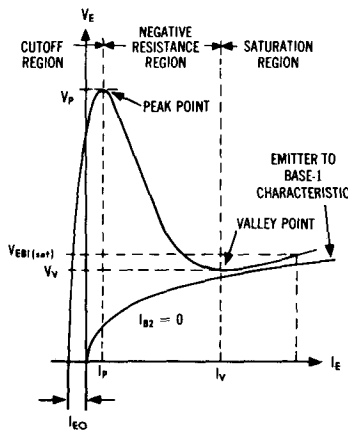

FIGURE 3 — V_{OB1} TEST CIRCUIT
3. Base-One Peak Pulse Voltage is measured in circuit of Figure 3. This specification is used to ensure minimum pulse amplitude for applications in SCR firing circuits and other types of pulse circuits.